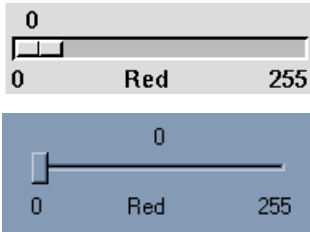

Figure 2-15. Sliders in Motif (top) and Windows (bottom).
- **Sliders:** Sliders, also known as scales, are controls that allow you to specify any value in a specific range by using the pointer to drag a thumb slider button back and forth or up and down along a scale. For fine control, you can use the arrow keys on your keyboard to move the thumb in small increments. Figure 2-15 shows sliders as they appear in Motif and Windows systems.